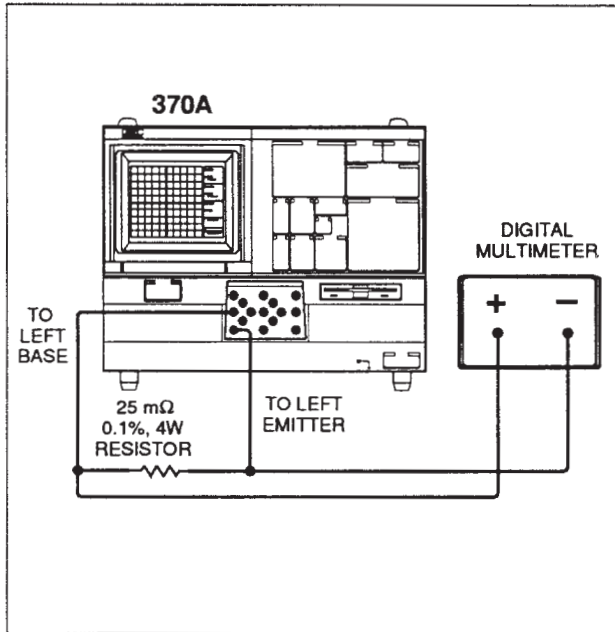

Figure 4-6. Checking for Maximum OFFSET of 200 mA Range.
l. Connect a 0.025 Ω Resistor to the Left Base jack (B) to the Left Emitter jack (E) and connect the Digital Multimeter to the leads of the Resistor as shown in Figure 4-6.